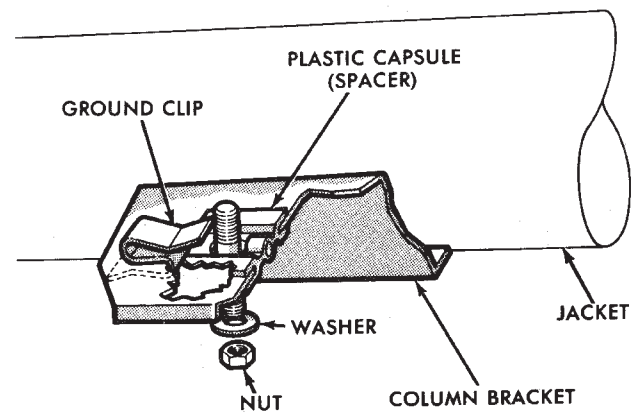

Fig. 12 Ground Clip & Spacer Installation
(2) Install the ground clip on the left capsule slot (Fig. 12). The plastic capsules should be pre-assembled in the bracket slots. **Remove the shipping lock pin (Fig. 1) located on lower column jacket when installing a new steering column.** Insert the column through the floor pan opening while being careful to avoid damaging the interior paint and trim.